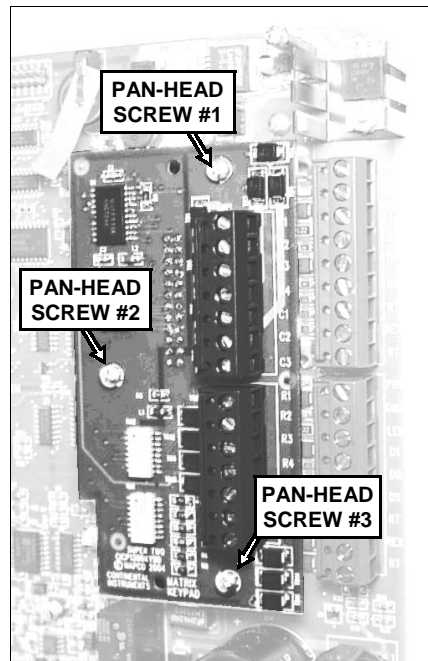

Fig. 5: Secure Keypad Board (highlighted) to three standoffs using the screws provided.
4. **Place the Keypad Board on to the main board,** parallel to the top. Align the standoff holes in the Keypad Board with the standoffs installed in step 3. Align all pins of the memory board with the JP2 connector. **Note:** The socket is keyed, allowing the pins to be inserted in one direction only. Press in to secure. Insert the 4-40 3/8" SEMS pan head screws (with built-in lock washers) into the standoff holes and screw-in to secure. See Figure 5.